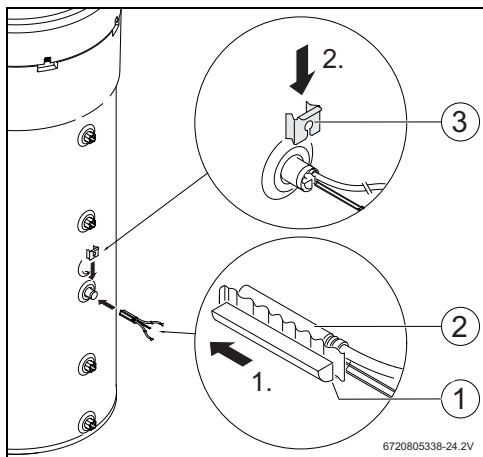

Fig. 11
- ▶ Install the installation set (Fig. 11, [1]), the temperature sensor connected to the accessories (Fig. 11, [2]) and position them as shown in Fig. 11.
- ▶ Attach the fastening clip (Fig. 11, [3]).